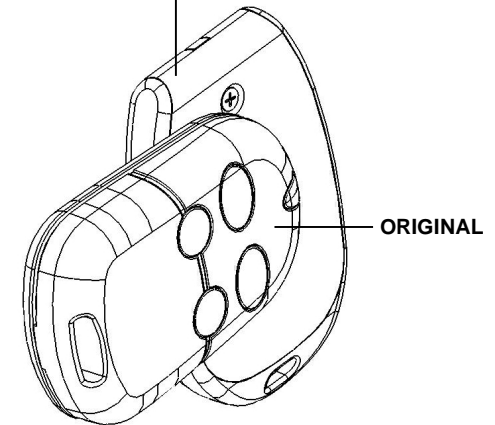

FIGURE 2
d) Place original remote control to copy close to **SMARTY433** as shown in figure 2